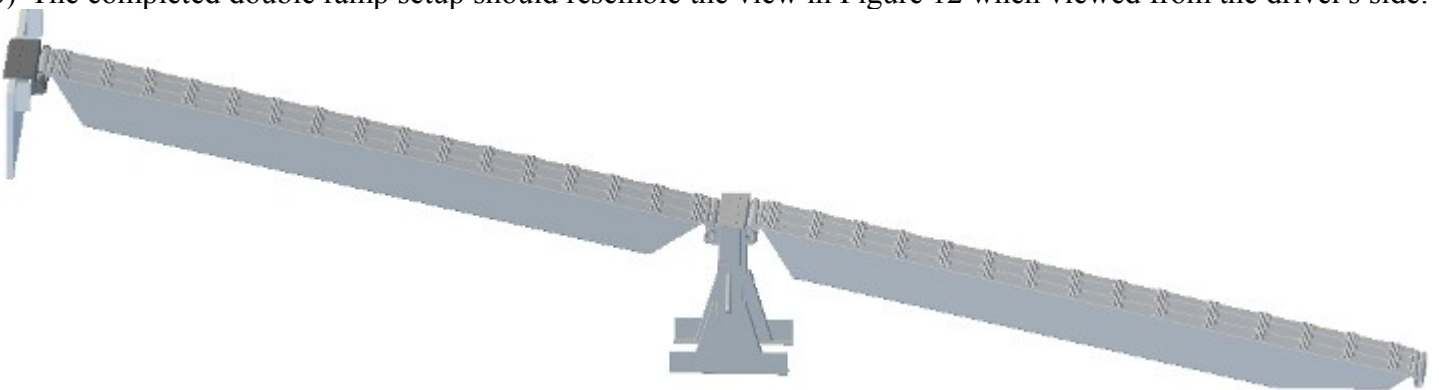

Figure 12 – Overall Side View of Assembled Double Ramps
- 10) The completed double ramp setup should resemble the view in Figure 12 when viewed from the driver's side: